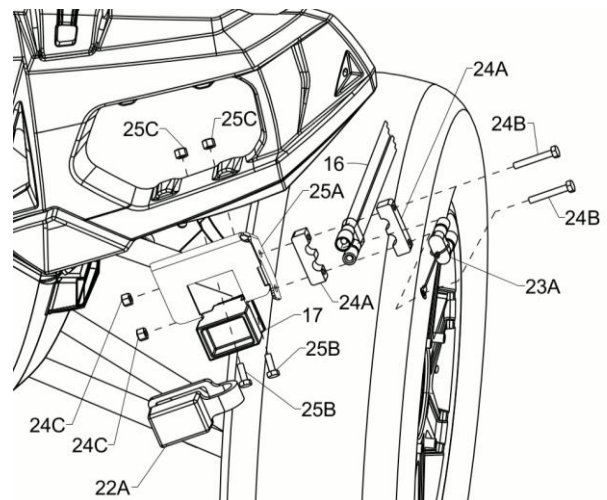

Figure 7. Control Harness Mounting Bracket Install G10754
3. Attach Mounting Bracket (25A) to the vehicle using two 1/4"-20 x 3/4" Hex Head Cap Screws (25B) and two 1/4"-20 Self Locking Nuts (25C) as shown in Figure 7.
4. Install plug end of Vehicle Side Power/Ground Cable (16) on to the Control Harness Mounting Bracket (25A) using the two Power/Ground Cable Mounting Brackets (24A), two 1/4"-20 x 1-3/4" Hex Head Cap Screws (24B), and two 1/4"-20 Self-Locking Nuts (24C). Attach lanyard of Power/Ground Dust Cap (23A) to lower Hex Head Cap Screw (24B) as shown in Figure 7. (Install optional 8ft long Vehicle Side Power/Ground Cable (16) on vehicles with rear mounted battery).
5. Install the Vehicle Side Control Harness Dust Cap (22A) on to the large plug end of the Vehicle Side Wiring Harness (17) and insert the harness in to the Control Harness Mounting Bracket (25A).